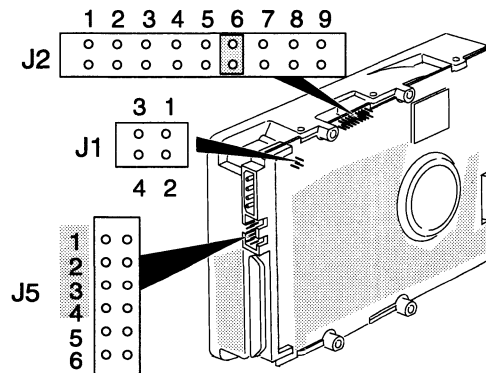

Figure 14 SCSI ID jumper settings and the location of the jumper-pin sets for the Model 61012-W drive (Version B)
2. Once you choose the SCSI ID number, install the jumpers for that ID number by referring to Figure 14.
For example, if you choose SCSI ID 1, install a jumper across jumper-pin set J5-1 as indicated in the table of Figure 14 by the word IN. Do not install jumpers across jumper-pin sets J5-2, J5-3, or J5-4 as indicated by the word OUT.
3. Make sure a jumper is installed across jumper-pin set J2-6 as shown in Figure 14.